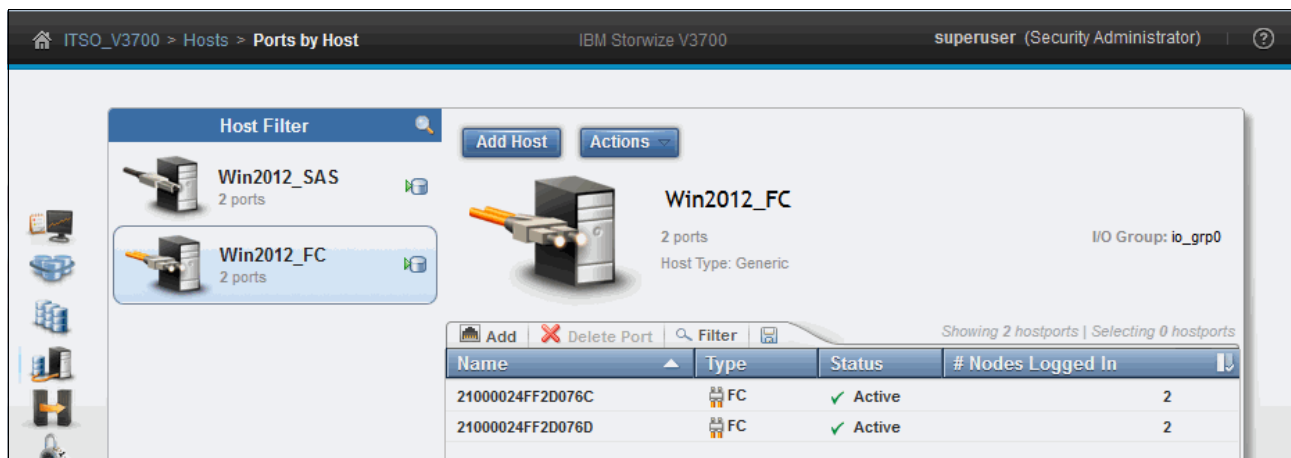

Figure 3-80 Ports by Host pane
1. Select **Ports by Host** in the Hosts menu to open the pane, as shown in Figure 3-80. The pane shows the Name, Type, Status, and the # Nodes Logged In for ports that are assigned to the host definition.